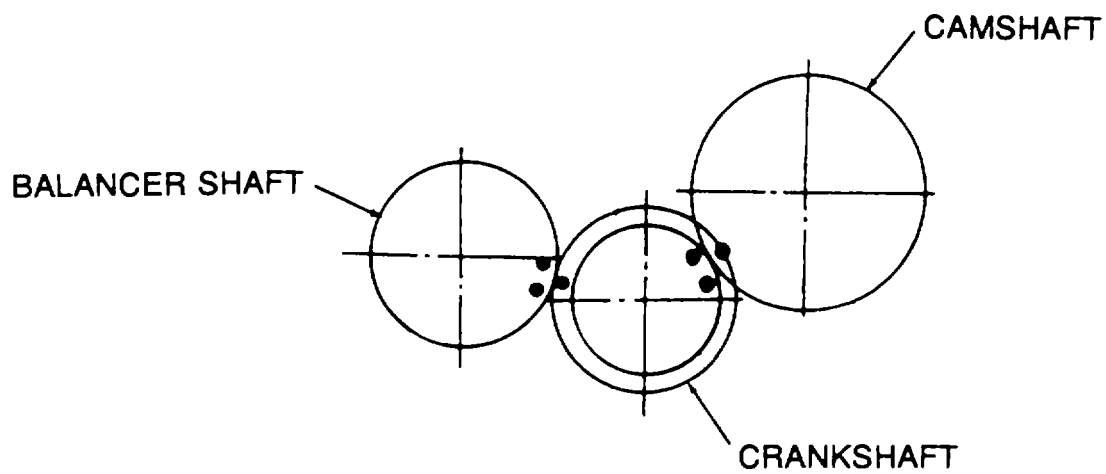

Figure 6-11. Camshaft Timing Marks.
- (1) Insert the intake and exhaust valve tappets into the cylinder block.
- (2) Insert the camshaft assembly (1) into the cylinder block.
- (3) Refer to Figure 6-11. Align timing marks on the cam gear (1) and crank gear (2).